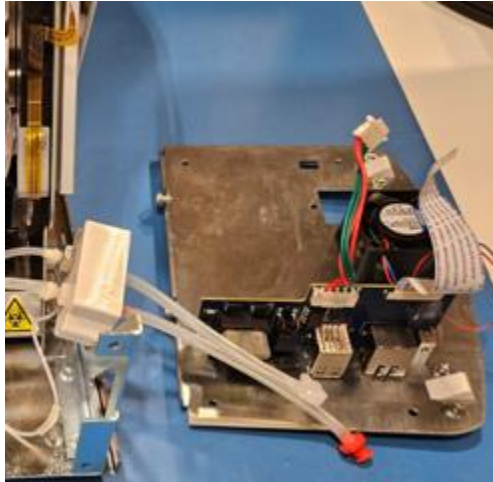

Figure 12
2.11. Remove Hydraulic Recess Panel and set aside (tubing is still attached). Figure 12.